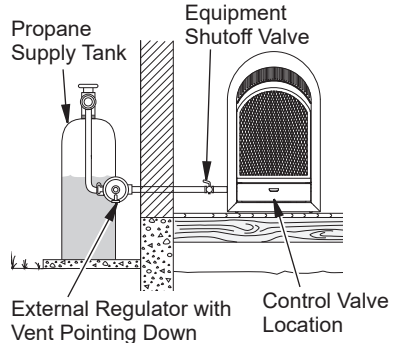

Figure 14 - Checking Gas Joints for Propane Gas
3. Check all joints from gas meter to equipment shutoff valve for natural gas or propane supply to equipment shutoff valve for propane (see Figure 14 or 15). Apply a noncorrosive leak detection fluid to all joints. Bubbles forming show a leak.
4. Check all joints from equipment shutoff valve to control valve (see Figure 14 or 15, page 14). Apply a noncorrosive leak detection fluid to all joints. Bubbles forming show a leak.